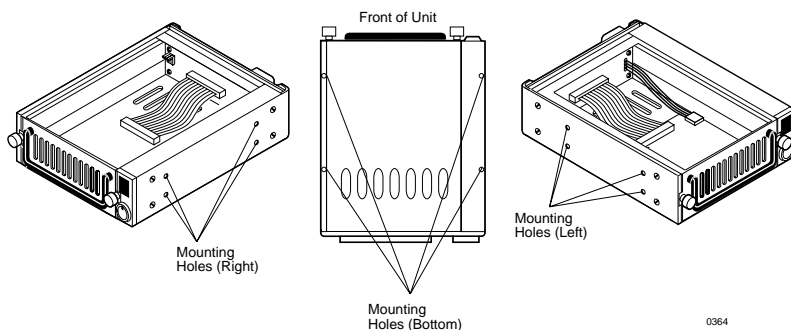

Figure 9: Receiving Frame Mounting Holes
4. With the drive carrier locked in place inside the receiving frame, install the DE200i-S into the 5.25" drive opening in the computer or expansion chassis. Use the appropriate guides to position the DE200i-S, and fasten it into place with the four (4) #6-32 Phillips Pan Hd. screws provided. Figure 9 illustrates the location of the mounting holes. Mounting holes are provided on each side and the bottom of the receiving frame to accommodate a variety of mounting configurations. Use the mounting holes which best suit the computer or expansion chassis configuration.